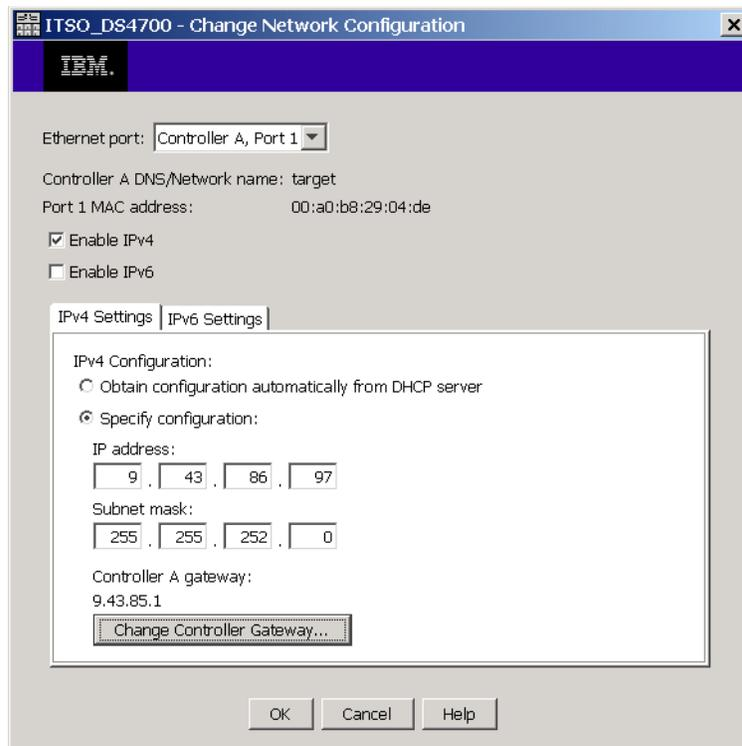

Figure 5-25 DS4700 Controller Network Configuration change
- h. Fill in the network information and click **OK**, as shown in Figure 5-25. You can configure both controllers and all Ethernet ports from this panel by selecting them in the drop-down menu. You can also enable or disable IPv4 or IPv6. If your workstation will be in some other LAN subnet than the DS4000, do not forget to set the correct gateway IP address.